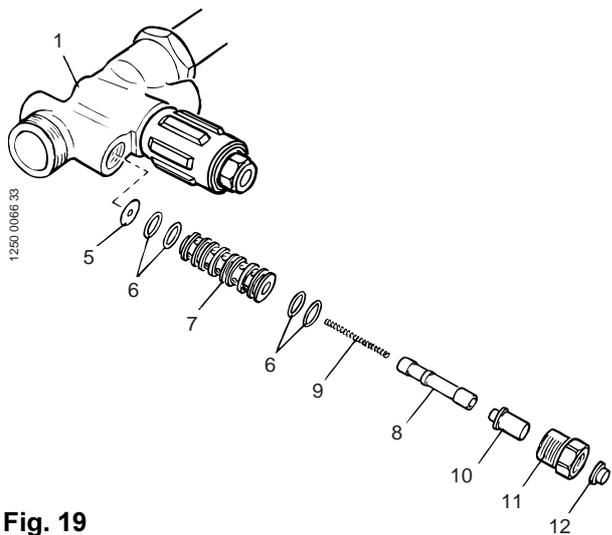

Fig. 19
14. Fit the O-rings (6) on to the valve liner (7). Fit the washer (5) into the valve housing (1), and then insert the valve liner (7) into the valve housing. See fig. 19.
15. Insert the spring (9) into the valve (8), and then fit the valve into the valve liner (7). See fig. 19.
16. Fit the wiper (12) and valve pin (10) into the adapter (11). Now fit the adapter complete into the valve housing (1). See fig. 19.